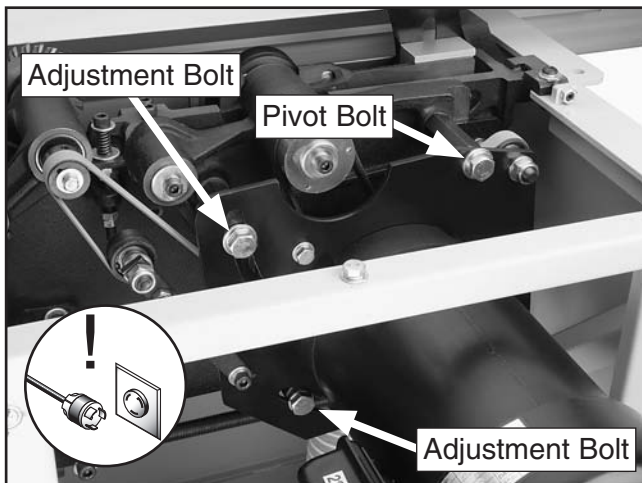

Figure 113. Main blade belt tension controls.
4. Loosen the pivot bolt and two adjustment bolts (**Figure 113**).